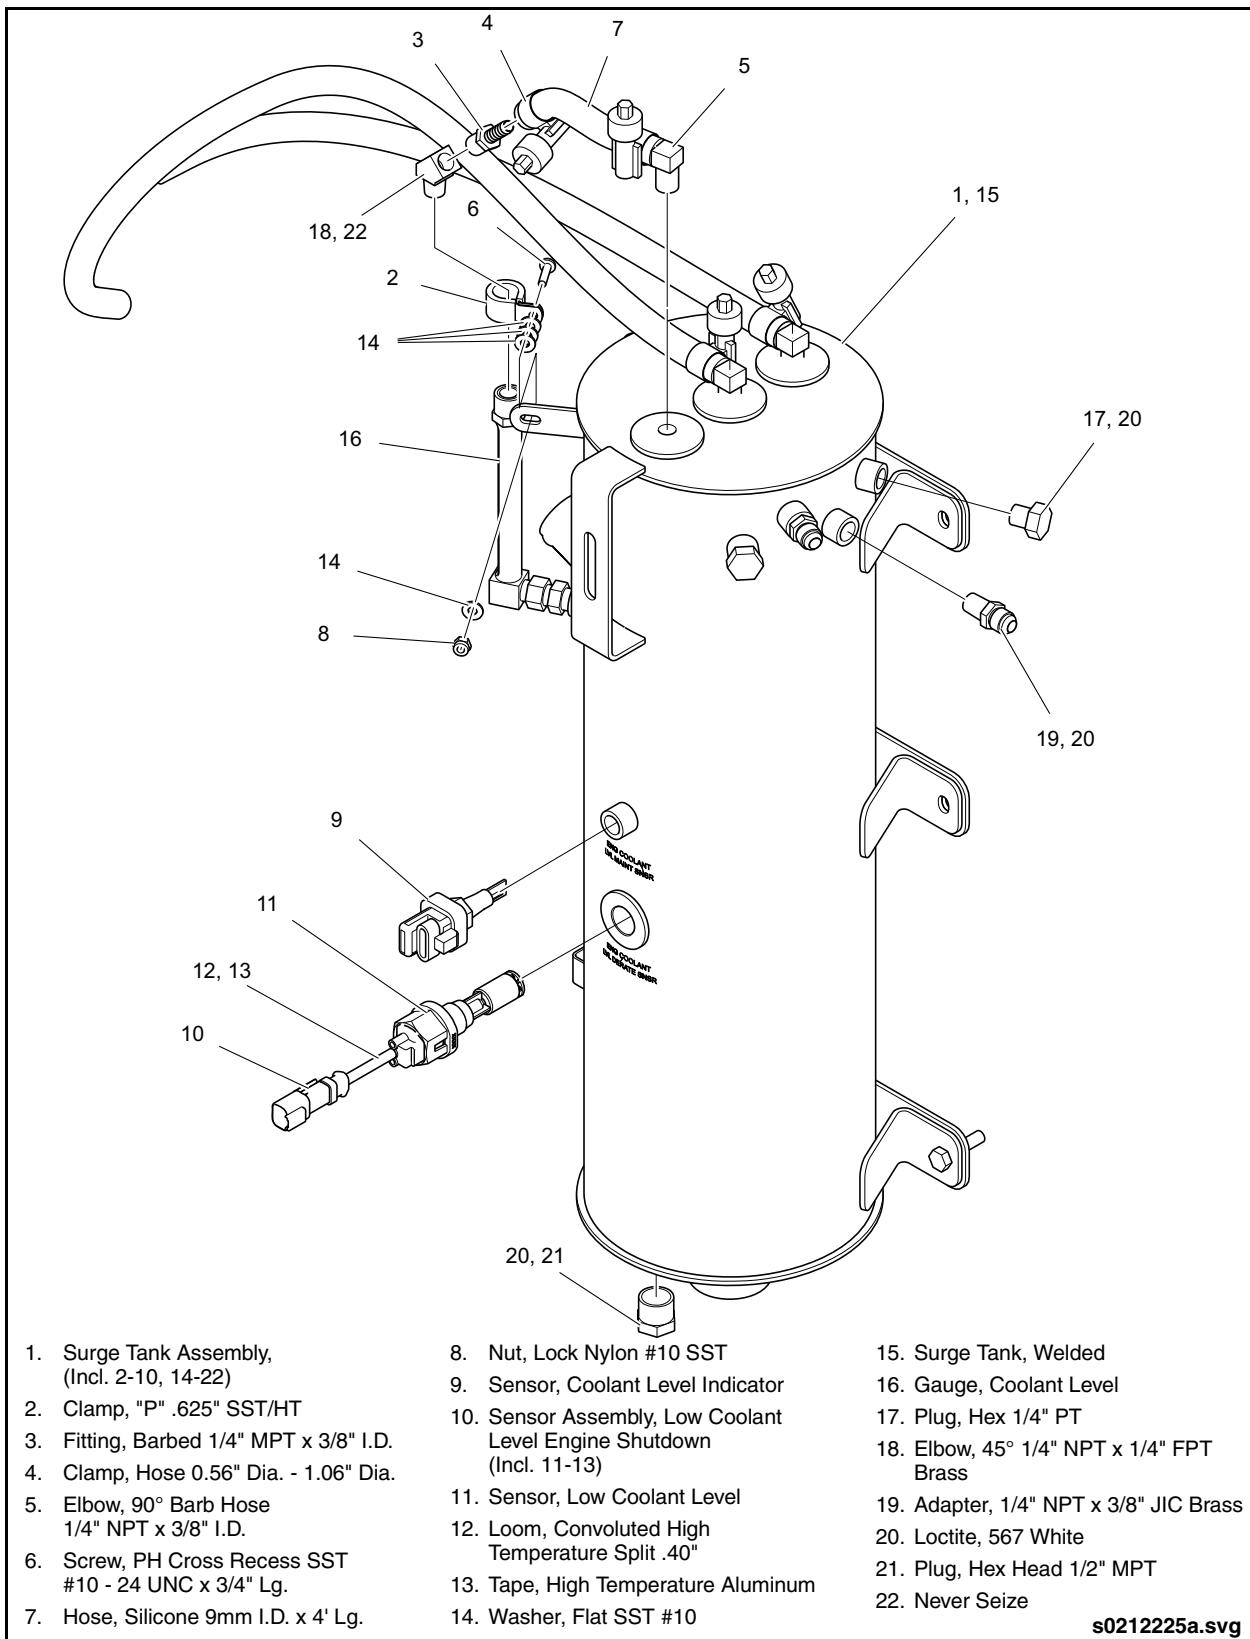

Fig. 6-8: Surge Tank Assembly
9. Remove coolant sensors, fittings, and fluid gauge as required. See “Fig. 6-8: Surge Tank Assembly” on page 26.